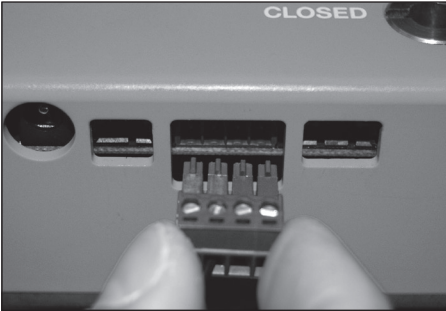

Figure 16
5. Remove the green circuit board terminal strip from the Control Unit by pulling straight out on the terminal strip. **Figure 16**